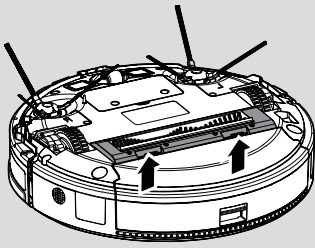

Fig. 21
2. Turn the Robot over. [Fig. 21]